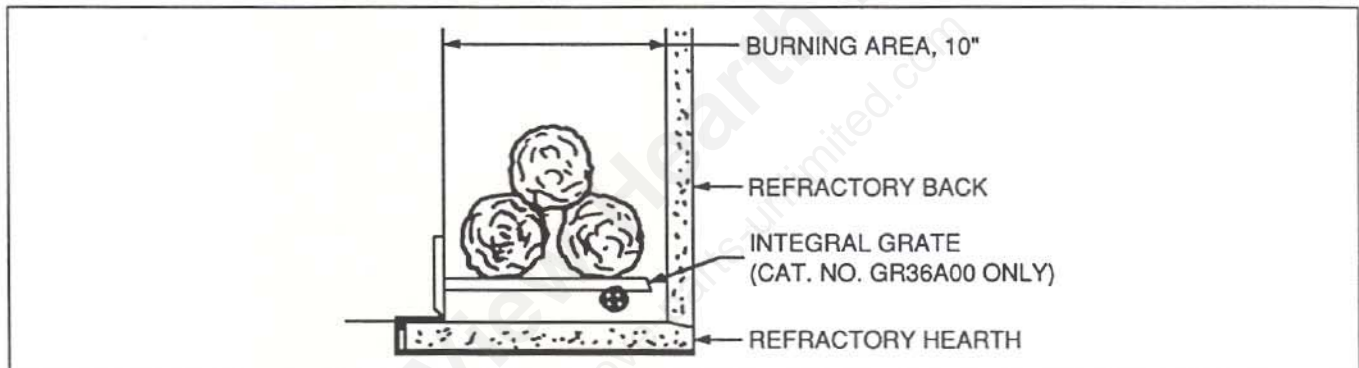

Figure 19
**E. GRATE.** The factory installed Integral Grate must be used to hold the logs from falling out of an open fireplace and to allow air to pass between the burning logs. It is important to keep the fire off the hearth and to allow the ashes to collect beneath the fire, thereby forming a layer of additional heat protection. See Figure 19. Use only Catalog Number GR36A00 Integral Grate for replacement.
**H. SETTING THE FIRE.** Check the flue damper to be sure it is fully open. Place crumpled or twisted paper under the Grate. Loosely arrange kindling or small pieces of wood to form a layer above the paper. Place three logs in a rough pyramid as shown in Figure 19, being sure to allow free air space between the logs. Small sticks of wood may be used to separate the logs. **NOTE: When heated the first time, the temperature of the fireplace must be raised radually, to prevent moisture within the refractory from causing cracks, and to allow the binders in the insulation to dissipate.**